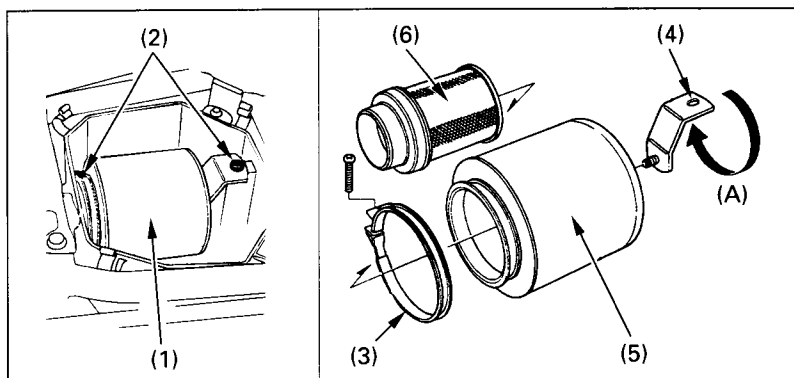

Fig. 4-6 (1) Air cleaner assembly (5) Air cleaner
3. Remove the screws (2) (Fig. 4-6) and remove the air cleaner assembly (1) from the air cleaner housing.
4. Unscrew the clamp (3) and remove the mounting bracket (4).
5. Remove the air cleaner (5) from the air cleaner body (6).